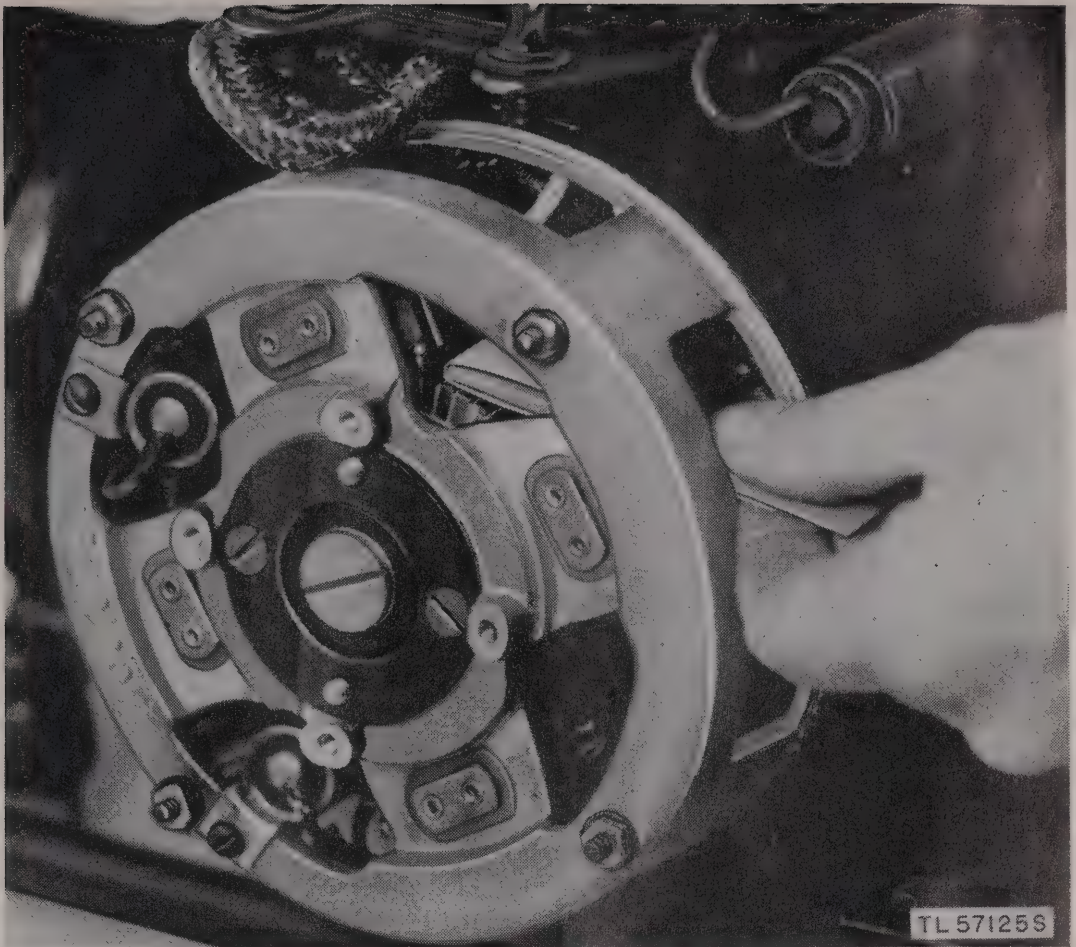

Figure 45. Dressing the commutator.
a. A highly polished commutator surface is very desirable, and a dark color should not be mistaken for a burned condition. If the surface of the commutator is smooth and polished and the operation is satisfactory the commutator should not be cleaned. Slight sparking is not necessarily evidence of poor commutation. If the surface of the commutator is slightly rough, smooth with the commutator-dressing tool (par. 62) as shown in figure 45. Apply the tool with slight pressure. Remove the abrasive material after cleaning. Use a piece of canvas in the same manner as the sandpaper and the commutator will be properly bur-nished. *Do not use emery cloth or crocus cloth.*